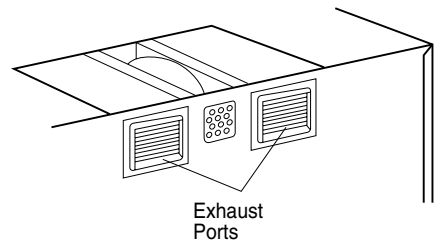

Figure 16
6. Place blower unit back into cabinet. Check that the exhaust ports face towards the rear of the cabinet. Be sure the wires are not pinched. See Figure 16.